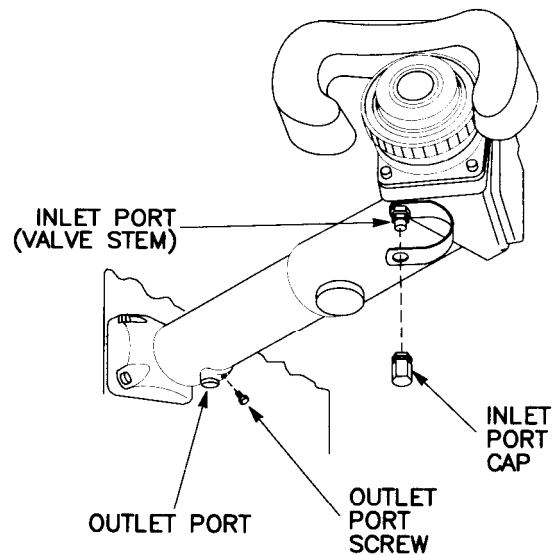

Figure 3-50 Commander's Relay Assembly
- (3) Commander's Relay Assembly (figs. 3-50 and 3-51).**